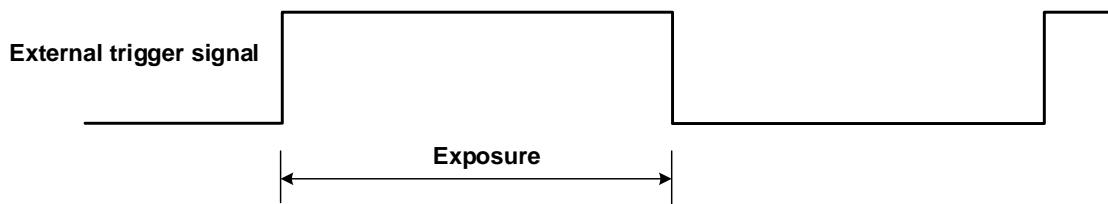

Figure 8-27 The sequence diagram in rising edge trigger of TriggerWidth exposure mode
- If rising edge triggering is enabled, exposure starts when the trigger signal rises and continue until the trigger signal falls, as shown in Figure 8-27